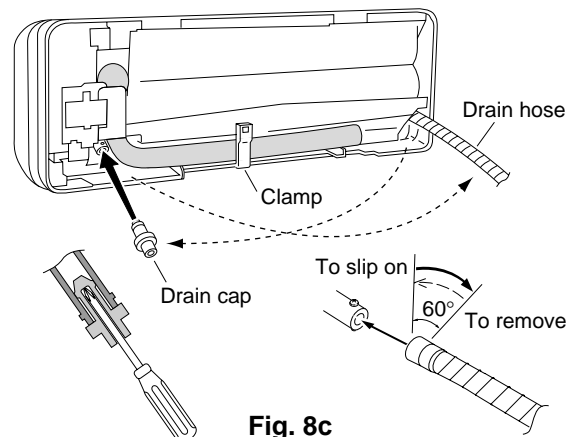

Fig. 8c
- (a) Locate the drain hose and the drain cap. (Fig. 8c)
- (b) Remove the drain hose on the right side by pushing and turning the hose connector counter-clockwise to release it. (Fig. 8c)
- (d) Reattach the drain hose to the left side and the drain cap to the right side. (Fig. 8c)